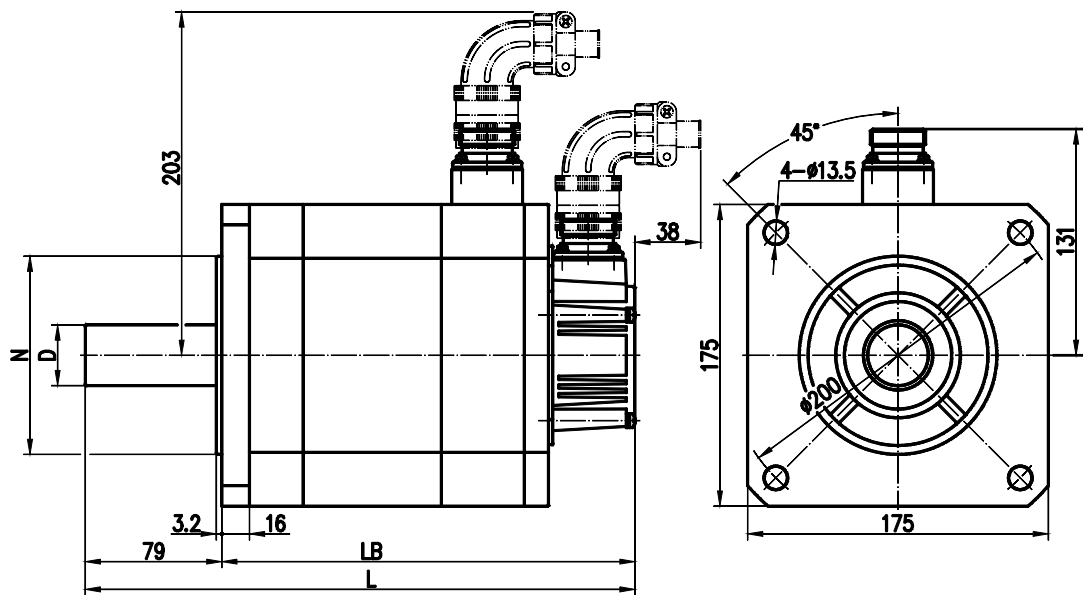

Fig. 2-4
- For external dimensions of 175SJT series motor, see figure 2-4, table 2-4.